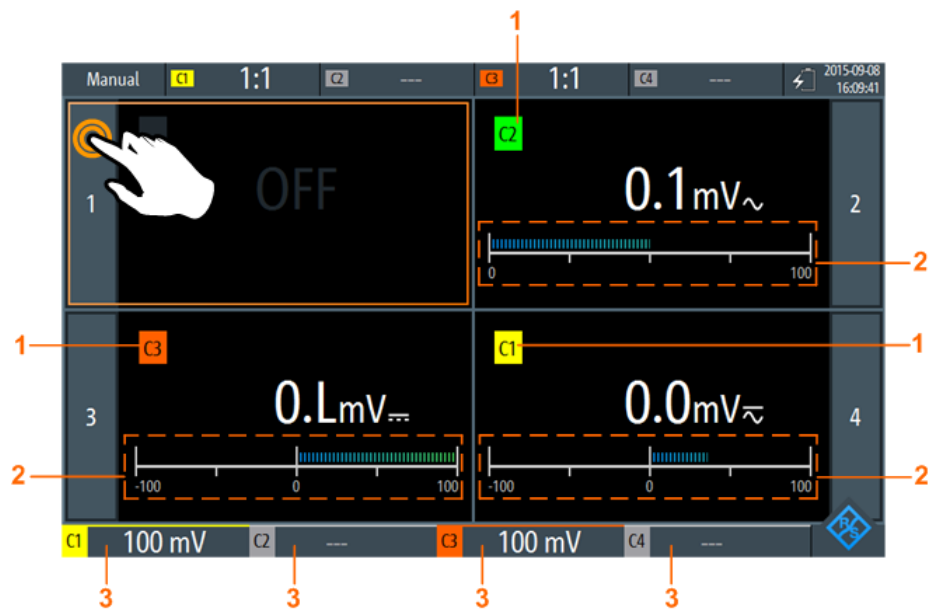

Figure 5-2: Four-voltmeter-view
- Tap the meter number as shown in Figure 5-2.